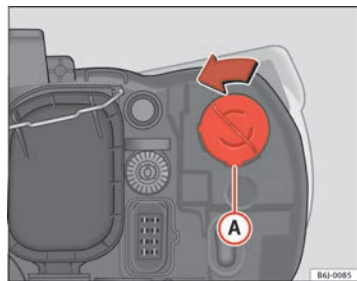

Fig. 144 Turn signal light
- Rotate the bulb holder ⇒ fig. 144 (A) to the left and pull.